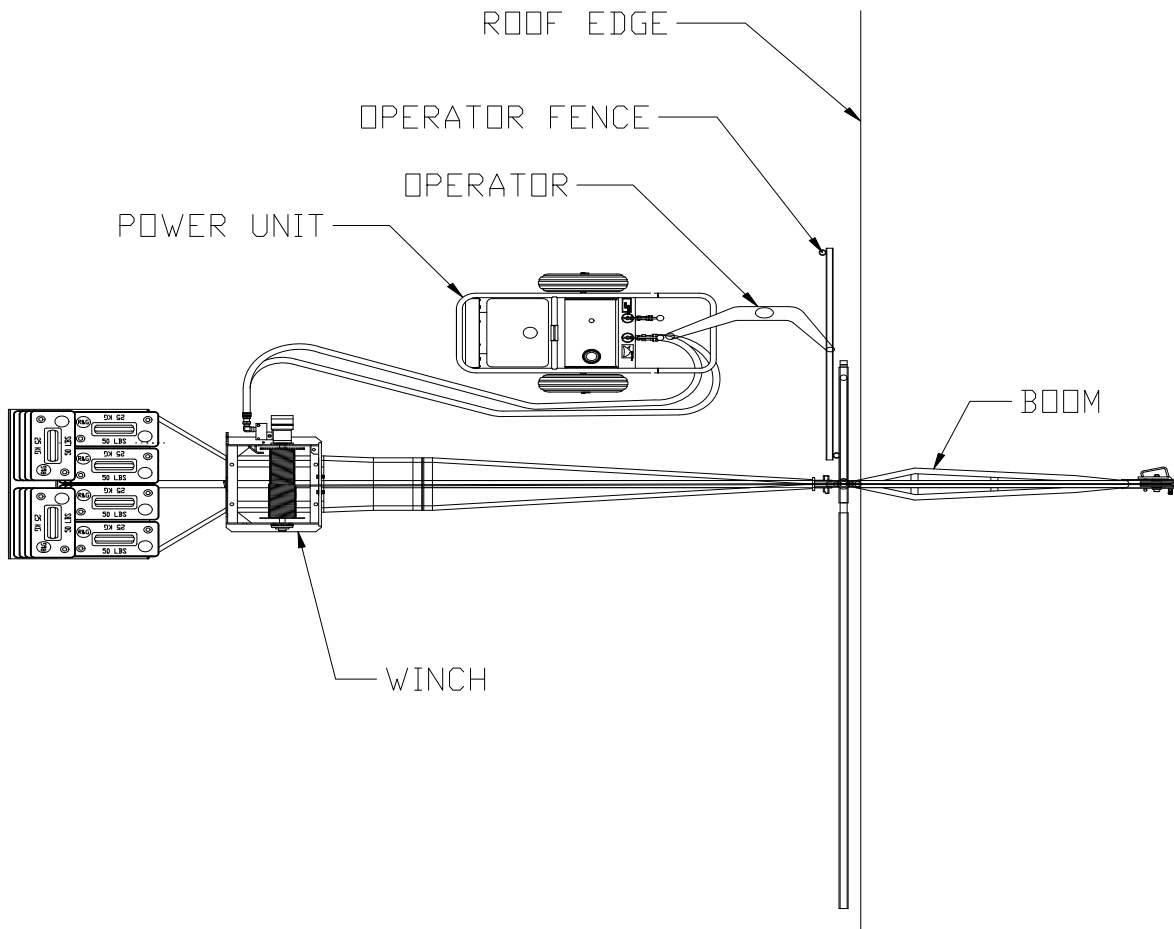

Figure 4-2.
- The hoist operator must remain behind the operator fence when operating the hoist. All personnel must be protected by OSHA compliant fall protection when handling loads at the roof edge. See Figure 4-2.